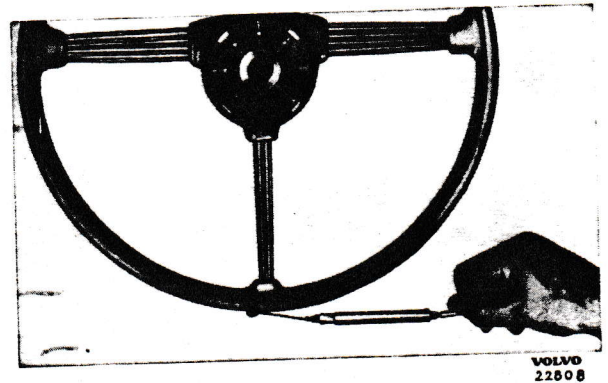

Fig. 35. Measuring steering wheel torque
9. Place on the steering wheel and attach a spring balance to the circumference of the wheel, see Fig. 35. Screw down the adjusting screw until a pull of 0.4—0.7 kg, (0.88—1.54 lb.) is required to turn the steering wheel past the centre position. When the correct setting has been obtained, the locking washer and cap nut are fitted in the case of a cast iron cover. There are two different types of lock washer in order to permit fine adjustment of the adjusting screw. In the case of a light alloy cover, the adjusting screw is locked with a nut. Repeat the test after locking.